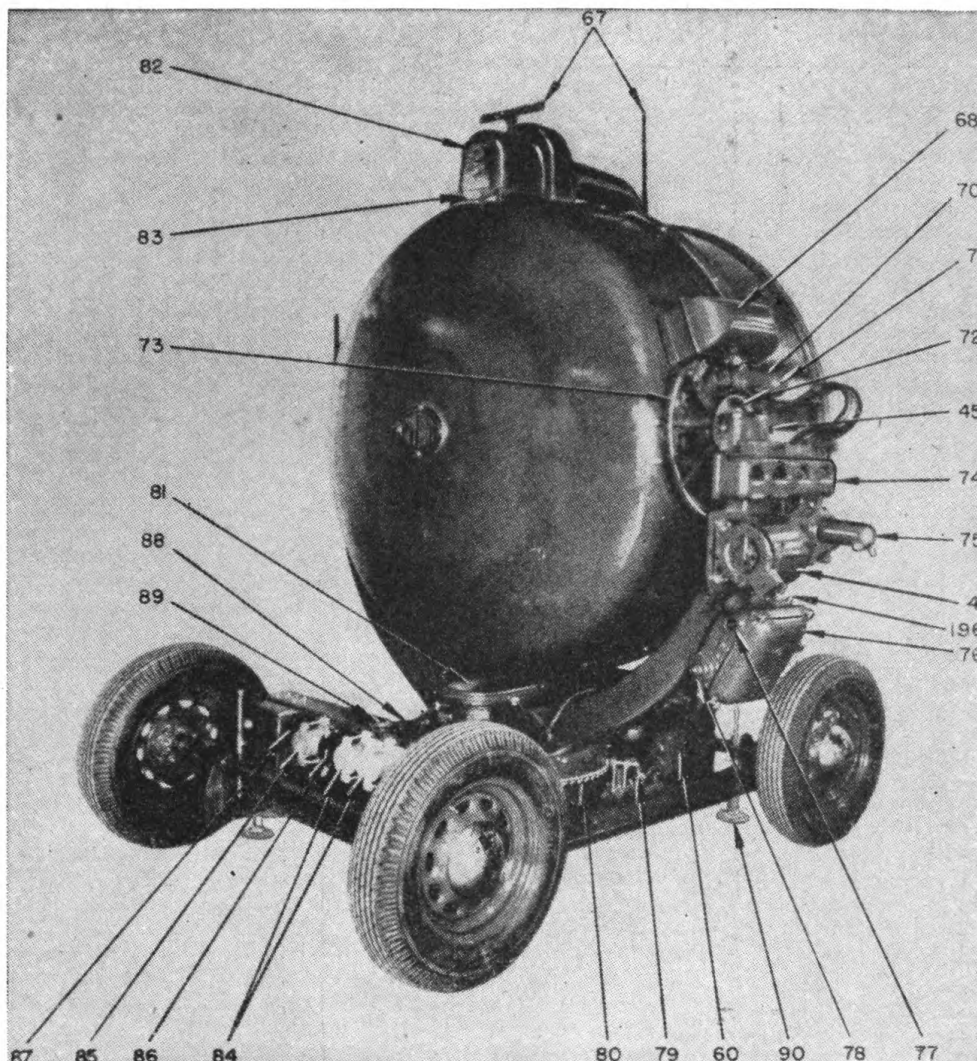

FIGURE 119.—Sperry M1941 mobile searchlight (rear quarter view).
41. Elevation control motor....	See figure 119, part 41.